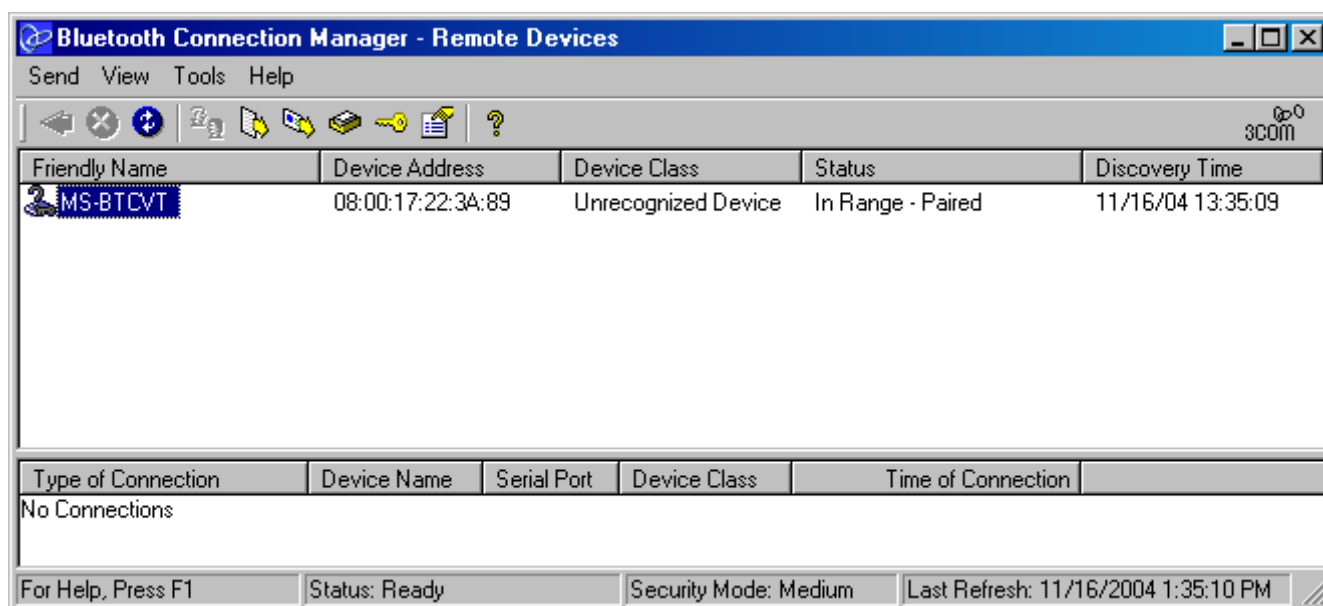

Figure 2: Bluetooth Connection Manager
10. Click the yellow arrow . The Status field reads In Range - Paired (Figure 2).